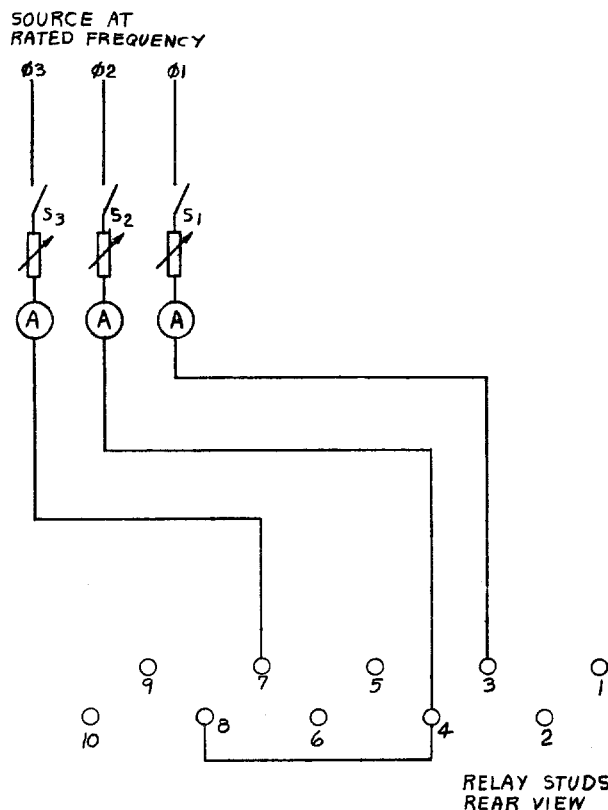

Fig. 5 (0165A7587-0) Laboratory Test Connections For Checking Pick-up Of Relay Type INC51A
1. With the tap screws in the 1.5A position, the time dial at the # 1/2 setting and the relay connected in accordance with Fig. 5, close switches S1 and S3. The overcurrent unit should pick up and close its contact at 2.6A ± 5%.